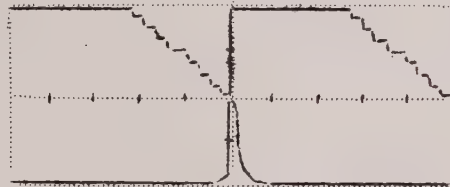

FIG. 3.6 OSCILLOSCOPE DISPLAY SHOWING L.O. RUN
51. PRESS MAN GATE BUTTON. A DISPLAY AS IN FIG. 3.6 SHOULD BE OBSERVED.